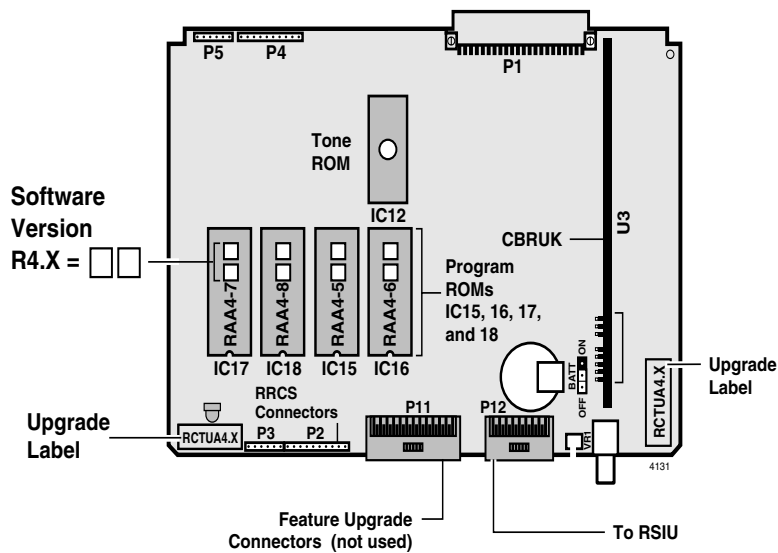

Figure 2 RCTUA PCB ROM Location
3. Remove the RRCS DTMF PCB on the RCTU card, if equipped (see Figures 2~5).